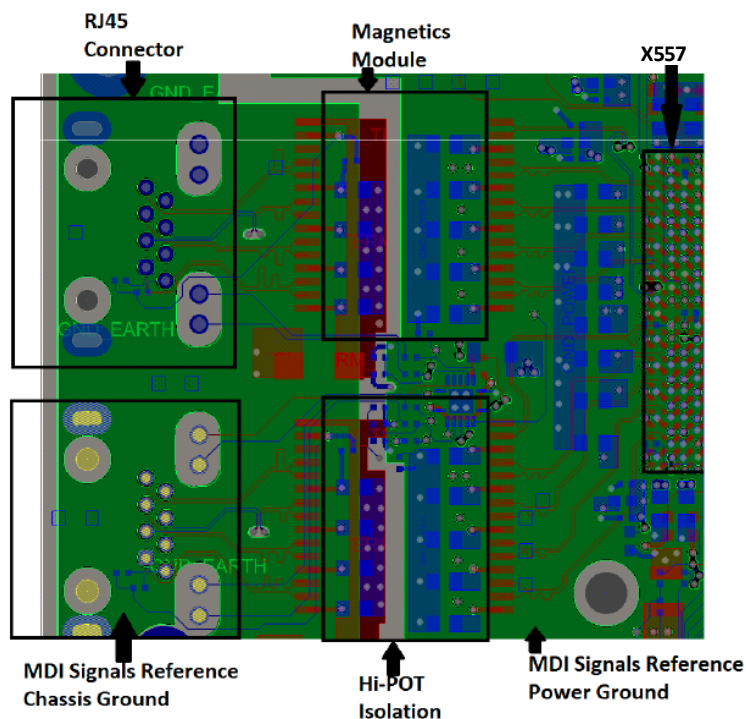

Figure 9-4 MDI Grounds
- Bob Smith termination and the shield of the RJ-45 jack are both connected to chassis ground, which are the two large circular metalizations in the MDI (see Figure 9-4).